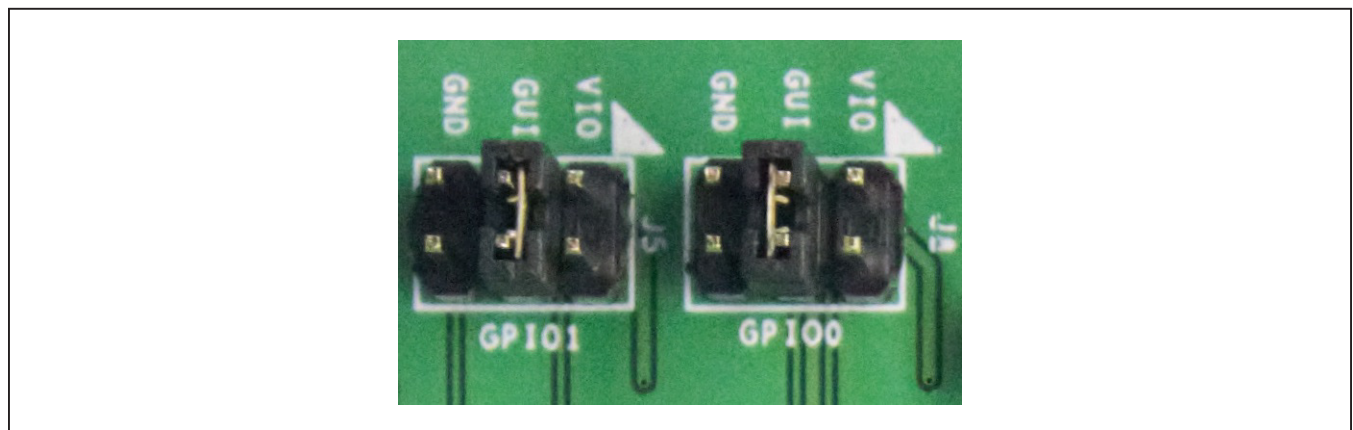

Figure 8. GPIO Headers
- 7) Install the appropriate shunt on J5 or J8 to connect the desired GPIO to the GUI GPIO (connect the jumper between 3 and 4) as shown in Figure 8.